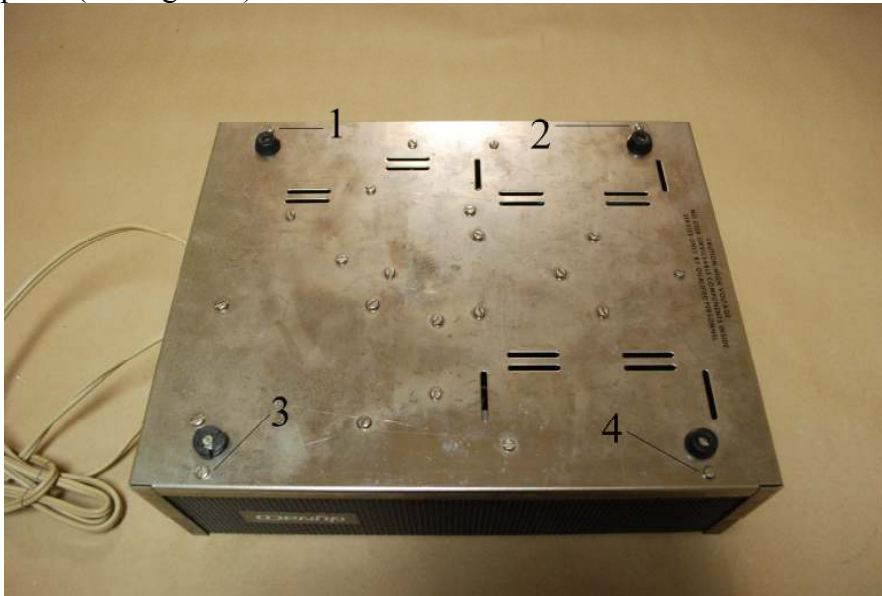

Figure 5-Location of the four screws that hold the cover to the base
2. Remove the four screws along the outside edge of the bottom that hold the cover in place (see Figure 5).